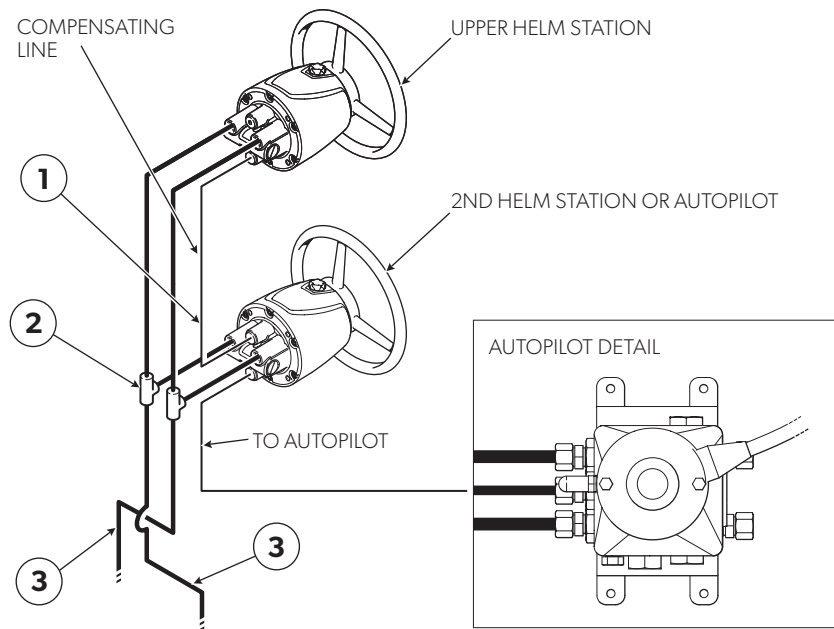

Figure 9-12.
1. Refer to illustration figure 9-12.